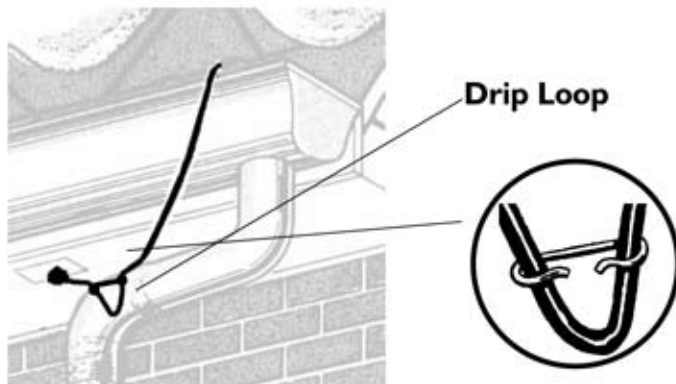

Figure 24. Forming a drip loop near the starting point
- If no damage is present, **plug the power cord into the receptacle.** Arrange the cord to form a drip loop using a spacer (see Figure 24). The purpose of the drip loop is to prevent melt water from tracking along the cord and into the receptacle.